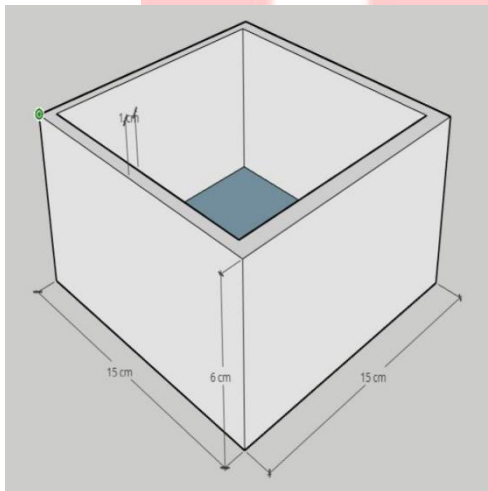

Figure 4A: low-rise House
- Dimension of low-rise House is 15 x 15 x 6 cms as shown in Figure 4A (if the Thermocol sheets of required dimensions are not available then the teams may cut or join the available sheets on their own to build the low-rise House of the mentioned proportions).